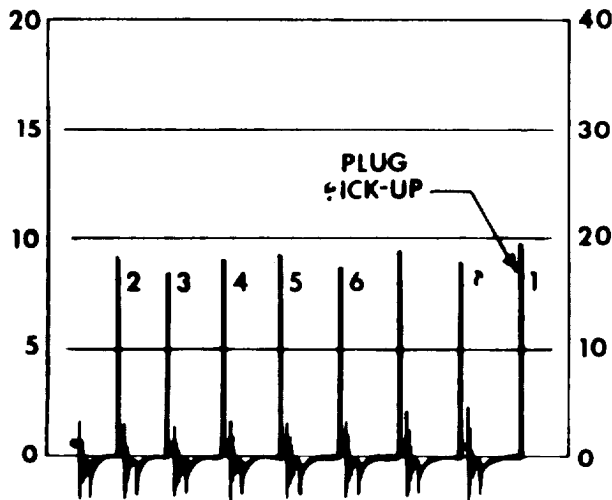

Fig. 32
1. The last KV plug spike at the right end of the pattern sequence is the No. 1 plug pickup connection. Refer to Fig. 32.